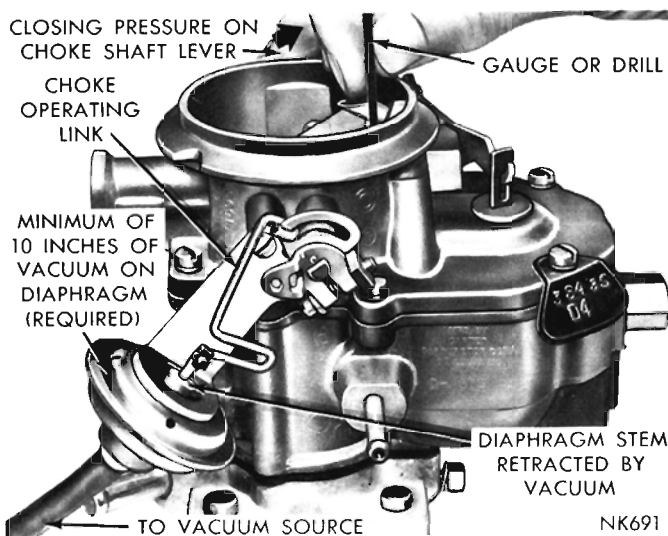

Fig. 14—Measuring the Choke Vacuum Kick Setting
(1) With the engine **Not** running, open the throttle valves far enough to allow the choke valve to be moved to the closed position.
(2) Disconnect the vacuum hose from the diaphragm and connect the hose from the vacuum supply as shown in (Fig. 14). (A minimum of 10 inches of mercury (HG) will be required.)
(7) Install the choke operating link and recheck the choke valve opening, using a guage or drill. Refer to (Fig. 14).
(8) Reinstall the vacuum hose to the diaphragm